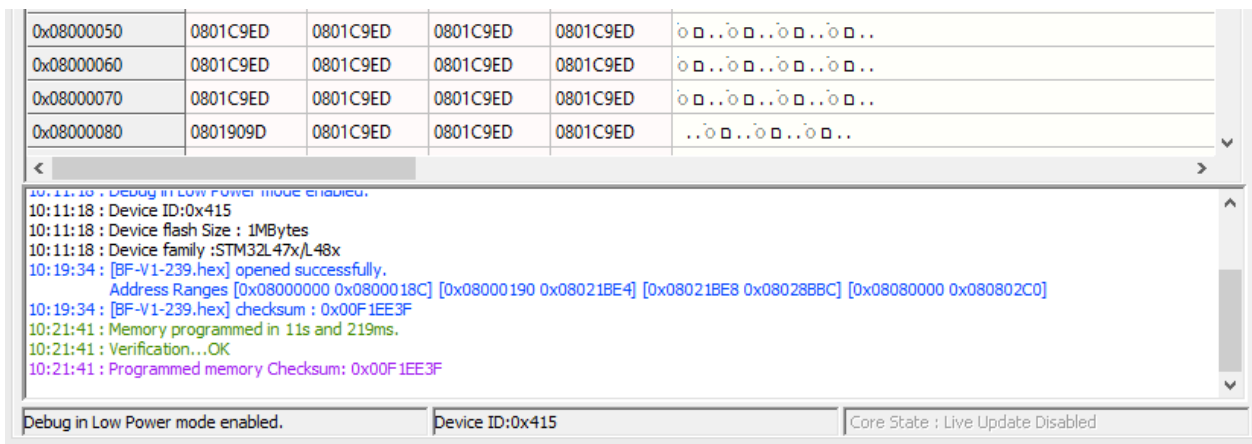

Figure 40: Successful Firmware Download
- After finishing the firmware upload, you should see “Verification...OK” message. See figure 40.